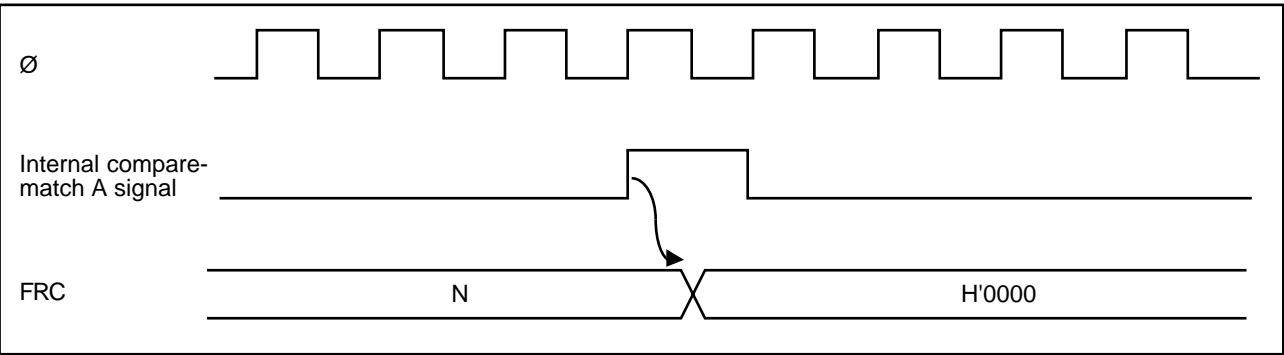

Figure 6-10. Clearing of FRC by Compare-Match A
(3) FRC Clear Timing: If the CCLRA bit in the TCSR is set to “1,” the FRC is cleared when compare-match A occurs. Figure 6-10 shows the timing of this operation.